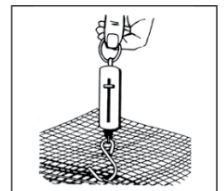

Figure 5
- Insert the hook of a spring balance under the center of the GlasGrid sample (Figure 5).